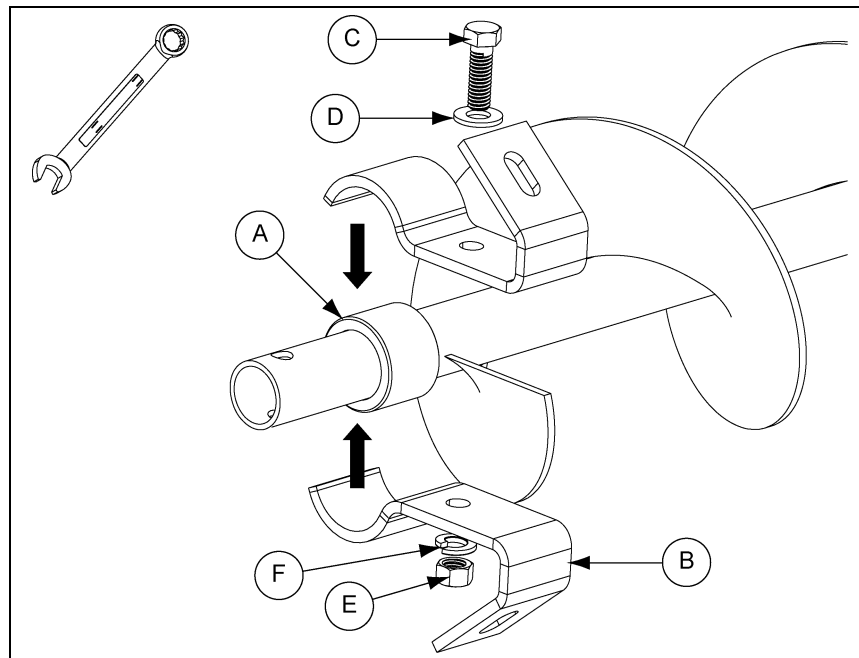

Figure 4J
Step 10: Fit bearing retainer. (See Figure 4J.)